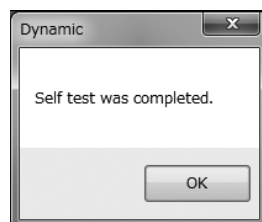
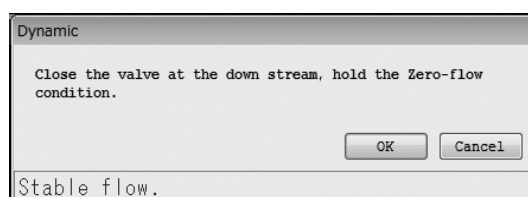

Fig.125
Fig.126
- ⑤ Click "OK" to execute the checks. Once they are finished, a message box (Fig. 125) will be displayed. Click the "OK" button to complete the dynamic device installation state check. The results are displayed as shown in Fig. 126.